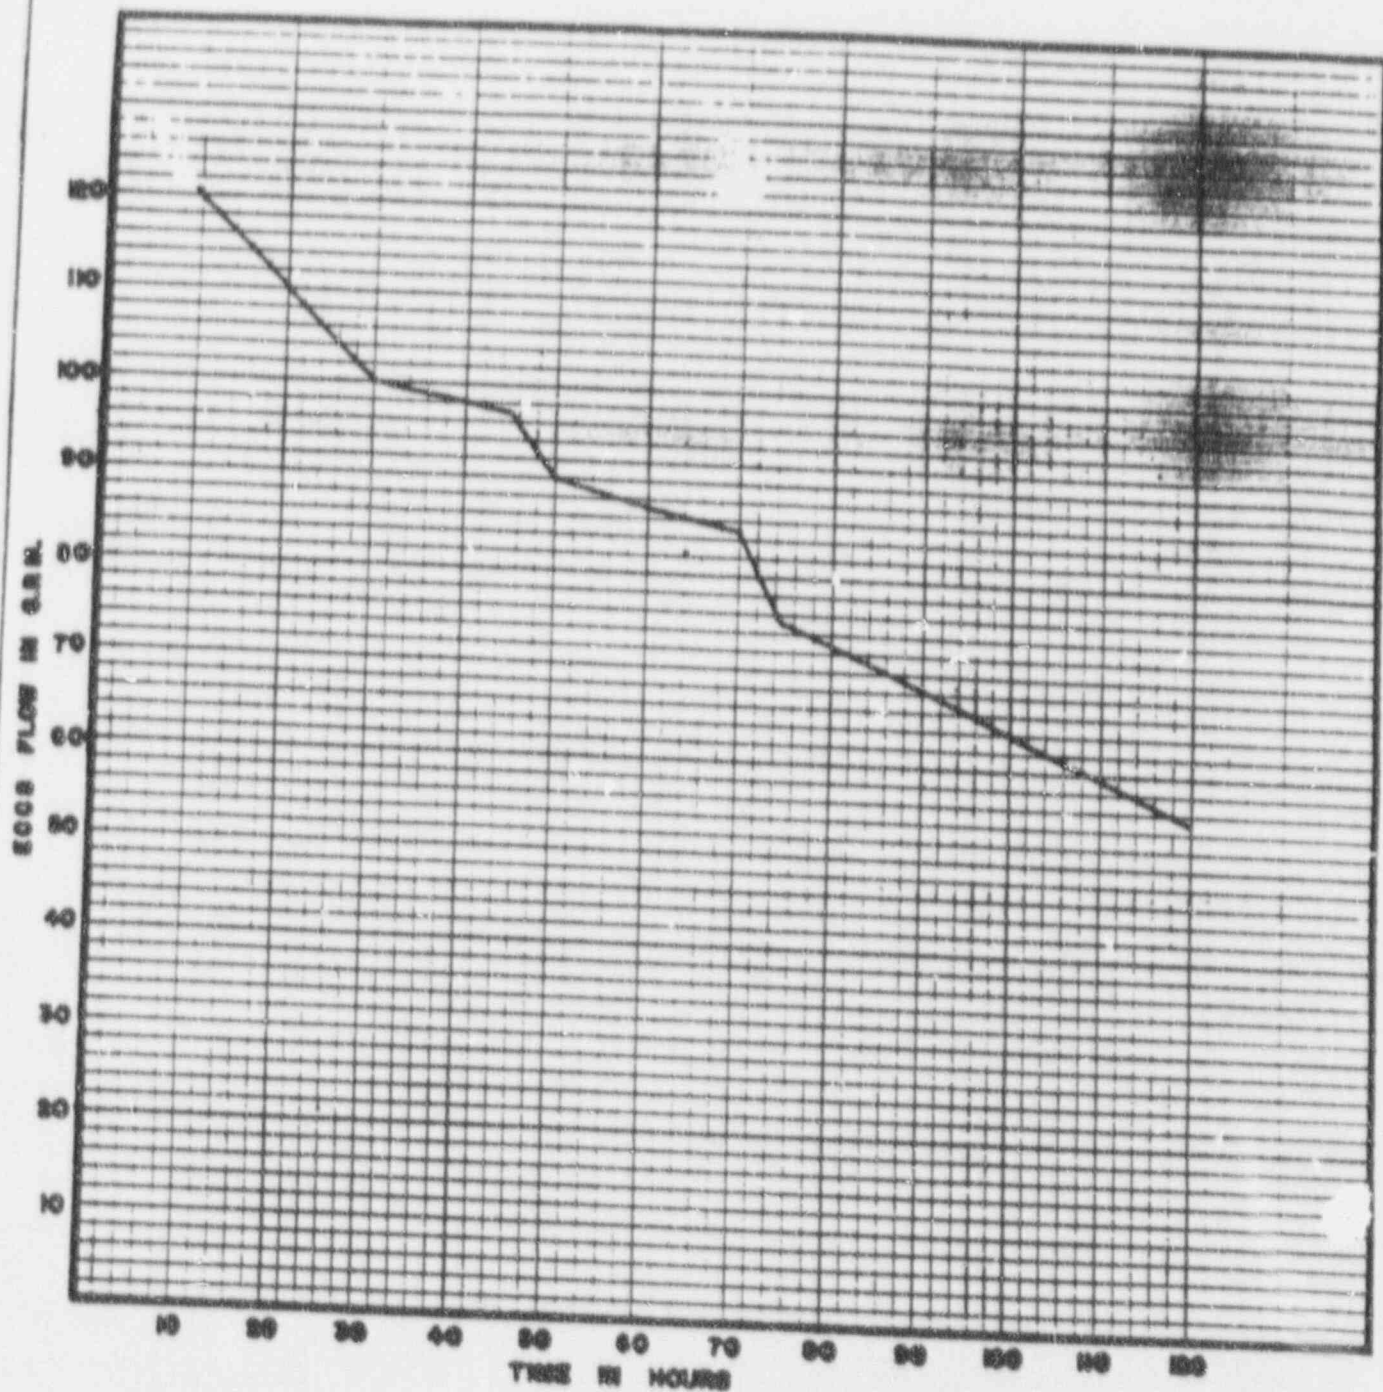

FIGURE 1 - MINIMUM ECCS FLOW VERSUS TIME AFTER REACTOR SHUTDOWN
- A22. Operate CCPs At Required Flowrate Per Figure 1.
A27. Control Charging Flowrate Using Figure 1 To Maintain Core Heat Removal And Vessel Level Above Midloop.